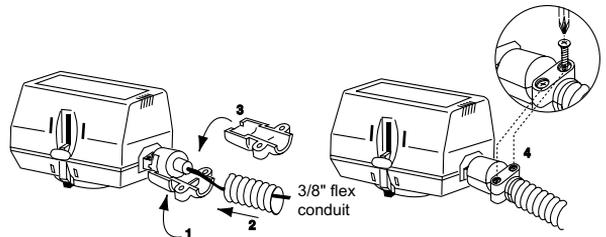

Figure 3 - Flexible Conduit Attachment
2. Connect leadwires. See Figure 3 for flexible conduit installation with plenum-cable models.